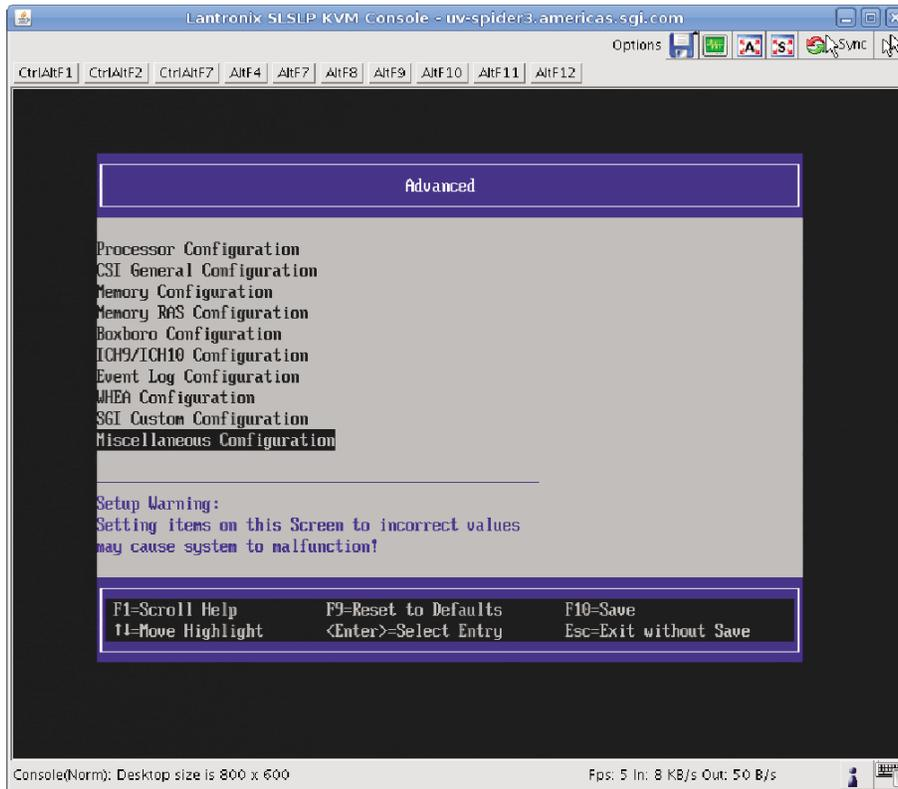

Figure 2-5 Advanced Boot Setup Screen
5. From the **Advanced** screen, select **Miscellaneous Configuration**, as shown in Figure 2-5 on page 32.